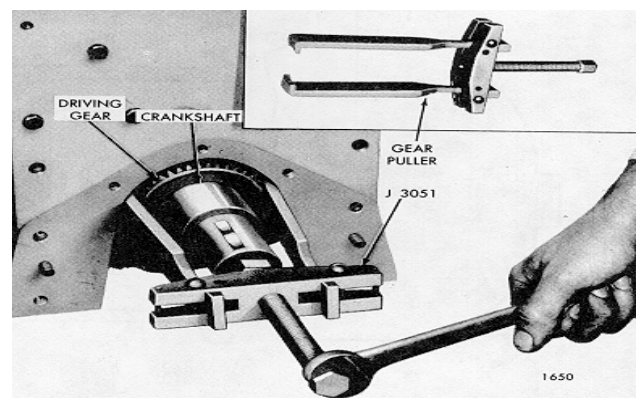

Fig. 8. Removing Oil Pump Driving
3. If required use puller J 3051, as illustrated in Fig. 8 to pull the pump driving gear from the front end of the crankshaft as follows: